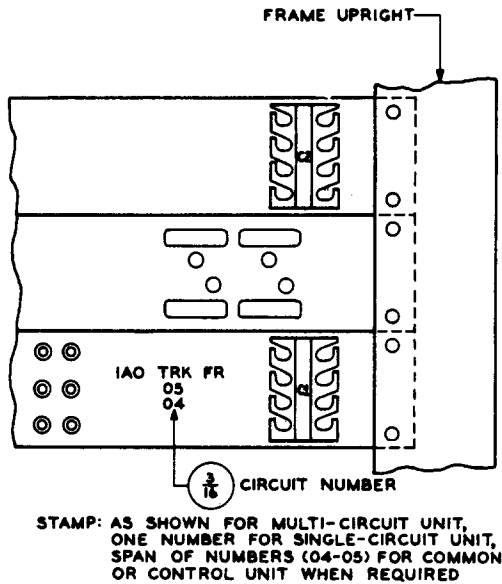

Fig. 21 – Bay Circuit Numbers on Rear of Equipment on Box-type or on Bulb-angle-type Relay Rack When in Offices With Box-type Framework
- (b) *On the rear*, stamp on the relay unit in any available space, but preferably under the group designation as shown in Fig. 21. For a span of numbers, stamp in one or two lines as covered in (a) above.